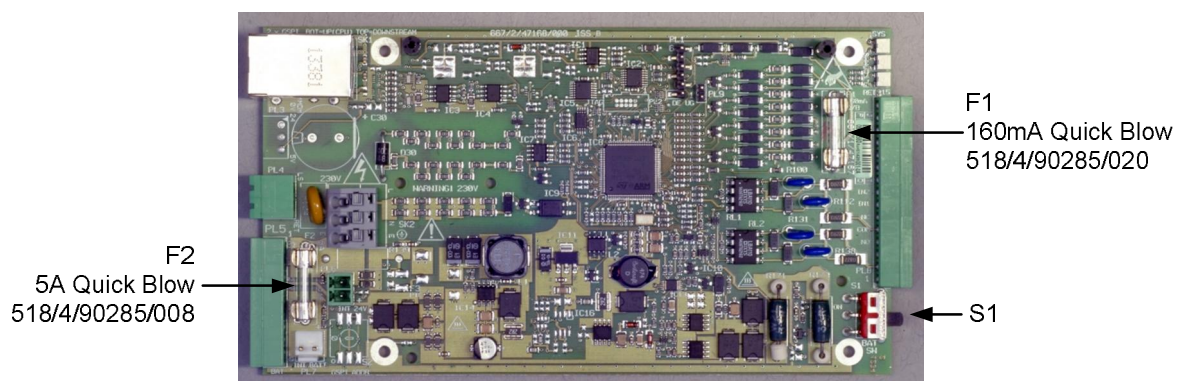

Figure 23 – Power Supply Board
4. The relevant fuse can now be replaced – refer to Figure 23.